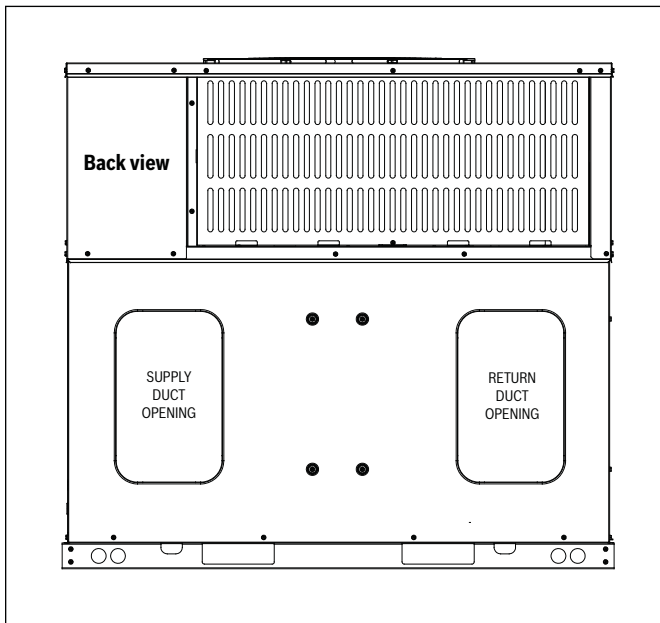

Figure 1 IDP 3 Ton
1. Locate the supply and return air panels, which are located on the bottom of the unit. See Figure 1 and 2.